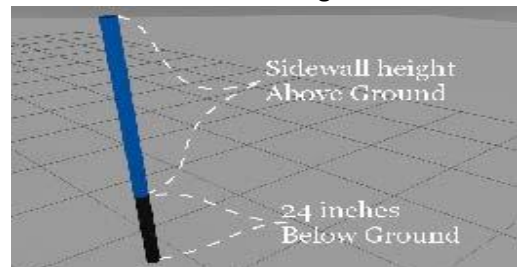

Fig 1.2 Ground Stake Depth
- The stakes should be approximately 24" below the ground. The section above ground will be the height of your sidewall (Fig. 1.2)